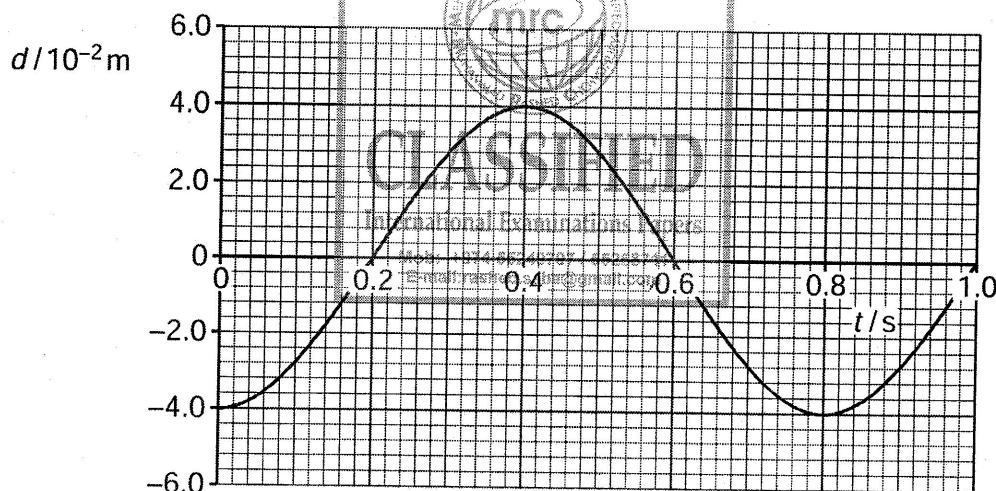

Fig. 3.2
- (b) The mass is pulled down and then released at time  $t = 0$ . The mass oscillates up and down. The variation with  $t$  of the displacement of the mass  $d$  is shown in Fig. 3.2.
Use Fig. 3.2 to state a time, one in each case, when